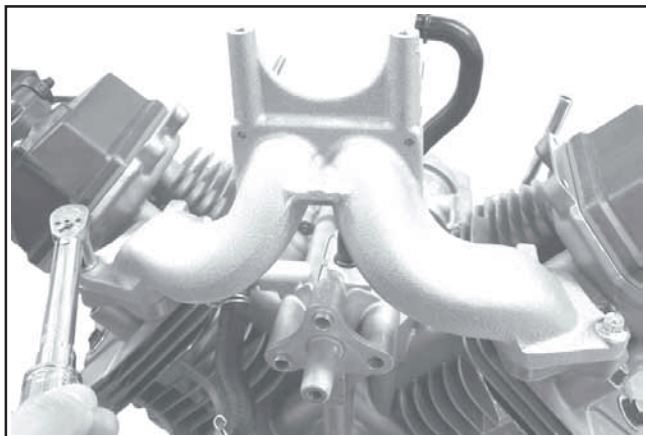

Figure 10-62. Installing Intake Manifold
2. Mount the intake manifold to the cylinder heads. Make sure the gaskets remain in the proper position. Torque the four screws in two stages, first to **16.9 N·m (150 in. lb.)**, finally to **22.6 N·m (200 in. lb.)**, using the sequence shown in Figure 10-62.